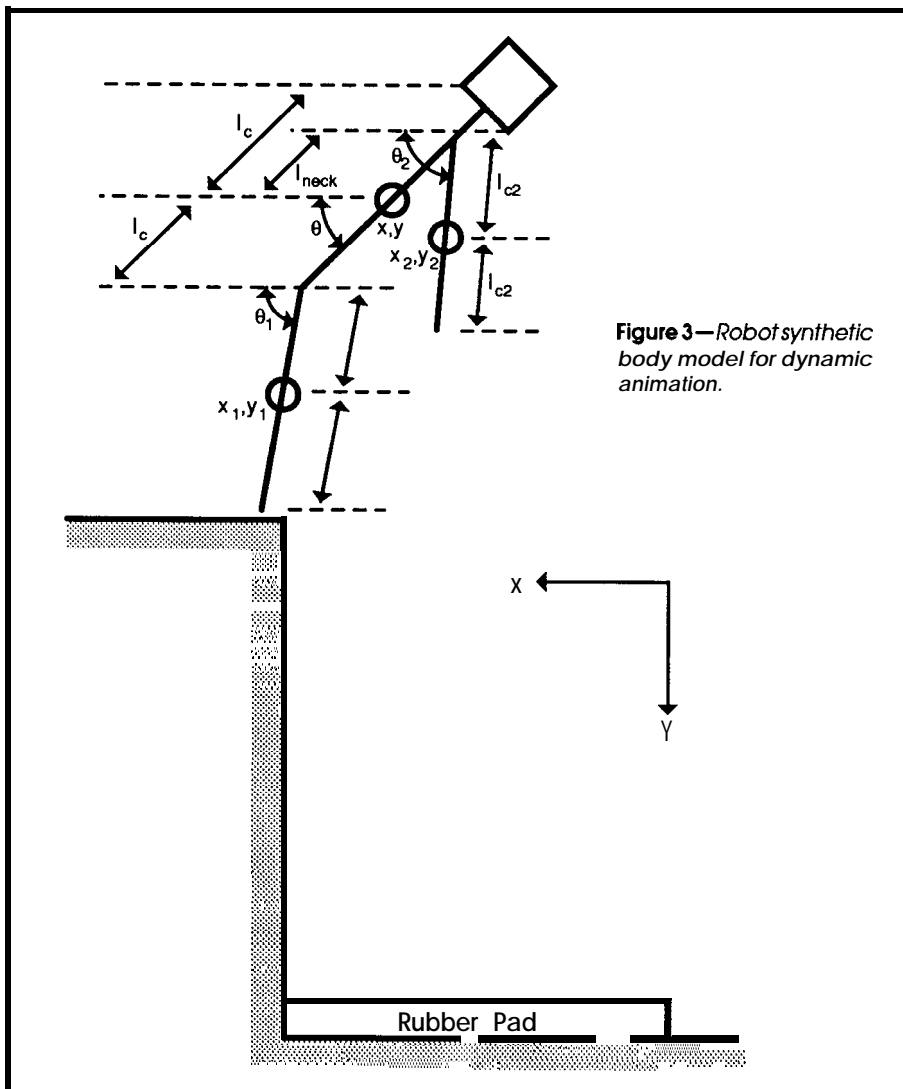

Figure 3—Robot synthetic body model for dynamic animation.
lie in a vertical plane, initially leaning over the edge of the wall. Its synthetic body will be constructed of three segments: the main body, an arm representing its two manipulators, and a leg segment representing its three-wheeled legs (see Figure 3). Each of these segments will be defined in terms of the center-of-mass (CM) of its original multiple elements. This is done to enable reconstruction of a finite set of possible animation sequences demonstrating the motion of all the limbs, with all gross motion still defined by our Lagrangian solution. These sequences will not be unique, however, since the CM description is not unique for all orientations of its assorted limbs. But it does assist in the reconstruction phase. If the initial limb orientation is known, constraints on their motion can be used to predict their individual behavior.
Figure 3 displays our choice of body model used in this animation. Since the right and left sides of the body are coupled through the CM procedure, we need only nine coordinates to describe the position of the body. These are,